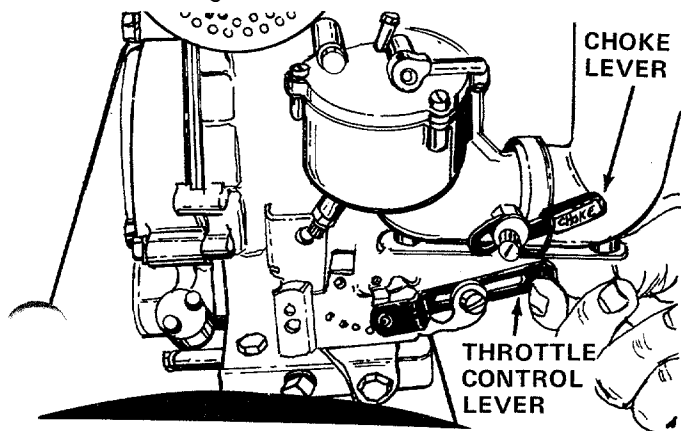

FIGURE 12 - 8 H.P. Briggs and Stratton engine shown
1. Place throttle control lever in FAST or CHOKE position. See figure 12.